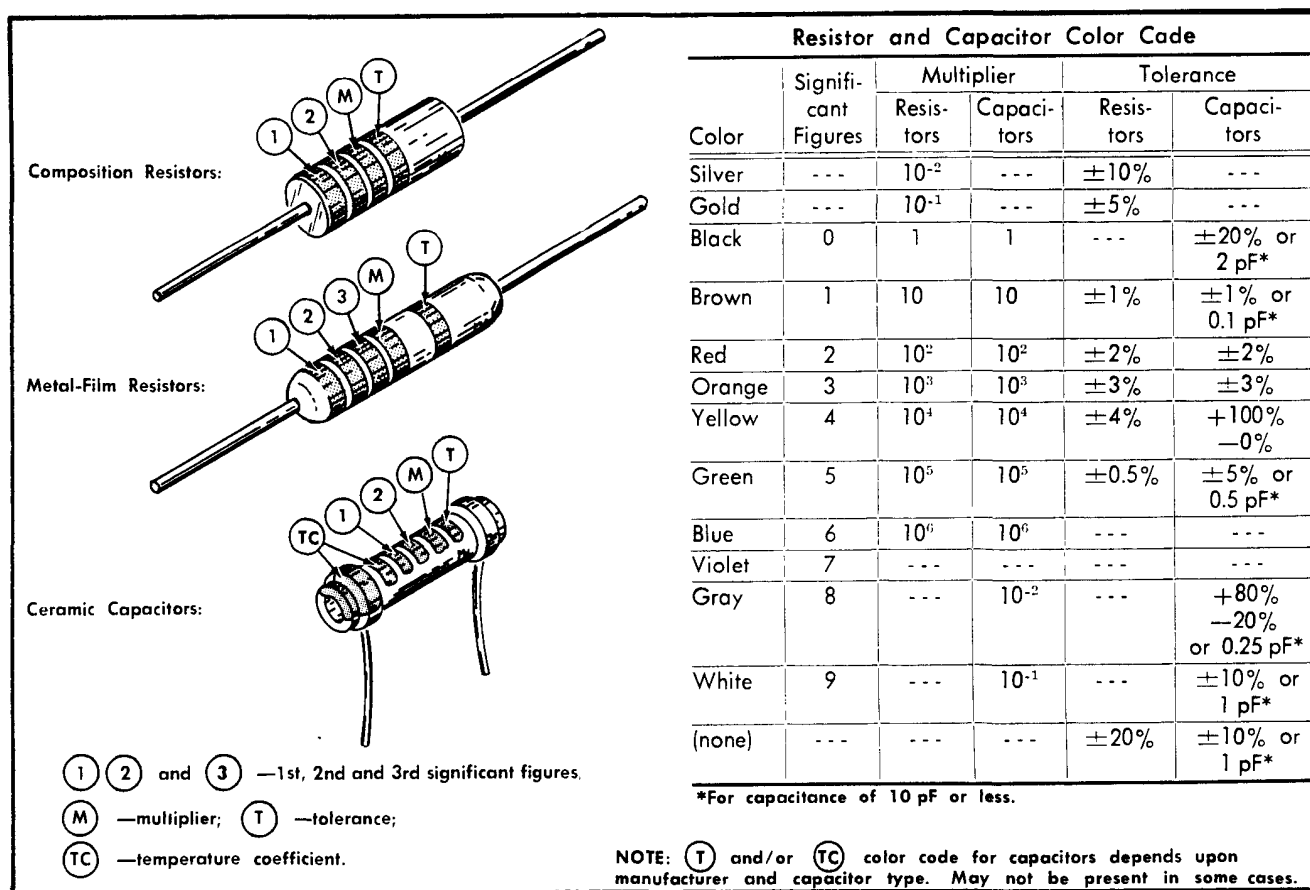

Fig. 4-1. Color-code for resistors and ceramic capacitors.
**Resistor Color-Code.** In addition to the brown composition resistors, some metal-film resistors (identifiable by their gray body color) and some wire-wound resistors (usually light blue or gray-green) are used in the Type 422. The resistance values of composition resistors and metal-film resistors are color-coded on the components (some metal-film resistors may have the value printed on the body) with EIA color-code. The color-code is read starting with the stripe nearest the end of the resistor. Composition resistors have four stripes which consist of two significant figures, a multiplier and a tolerance value (see Fig. 4-1). Metal-film resistors have five stripes consisting of three significant figures, a multiplier and a tolerance value.
**Capacitor Marking.** The capacitance values of common disc capacitors and small electrolytics are marked in microfarads on the side of the component body. The white ceramic capacitors used in the Type 422 are color coded in picofarads using a modified EIA code (see Fig. 4-1).